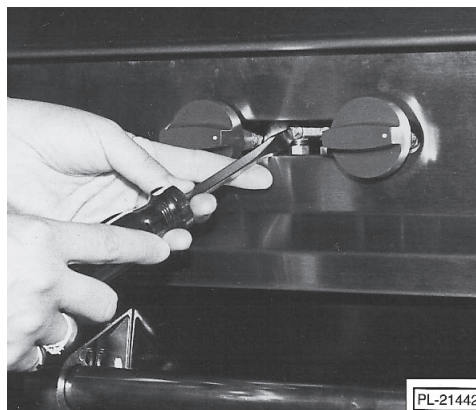

Fig. 1
To adjust pilot flame height of the top burners, locate the pilot adjustment screws found on the front manifold pipe. It is not necessary to remove the manifold cover, as adjustment access holes have been provided in the panel. With screwdriver, turn the adjustment screw of the pilot valve experiencing the pilot flame height problems (Fig. 1). Rotate the screw clockwise to decrease and counterclockwise to increase the flame height.
After pilot is lit, adjust pilot burner flame, if necessary, by rotating the adjustment screw of the pilot valve located on the manifold pipe (see Fig. 1).
2. Adjust burner flame, if necessary, by rotating the adjustment screw of the pilot valve located on the manifold pipe (see Fig. 1). Rotate the screw clockwise to decrease and counterclockwise to increase the flame.